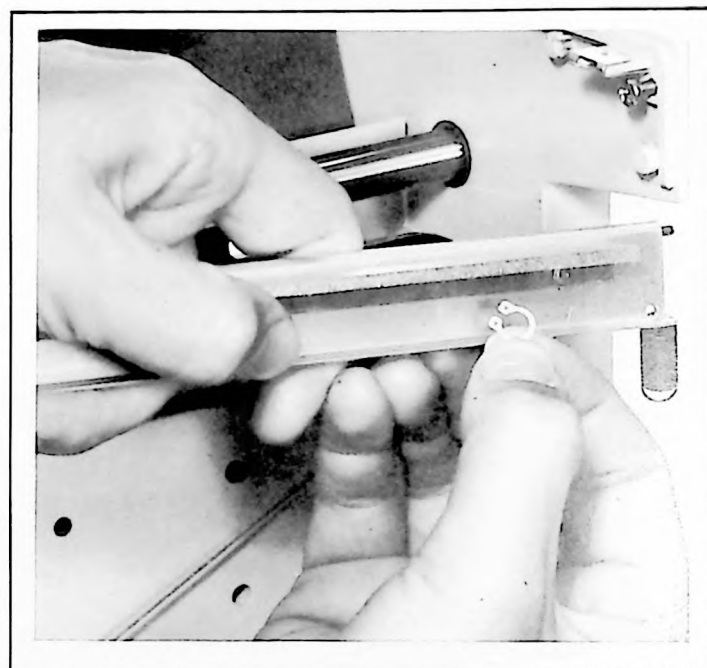

Figure 5-4. Pen Lift Bar Removal
- b. Unhook spring at right side of pen lift bar. Snap off retaining ring at right end of pen lift bar. Lift bar up and out. See Figure 5-4.
2. Unhook spring at right side of pen lift bar. Snap off retaining ring at right end of pen lift bar. Lift bar up and out. See Figure 5-4.
a. Remove disposable pen. Remove Rear Hood Assembly, Pen Lift Bar, and separate slider rod/carriage arm from potentiometer assembly. See paragraph 5-24, steps a through e and Figure 5-4. Remove old drive cable assembly.